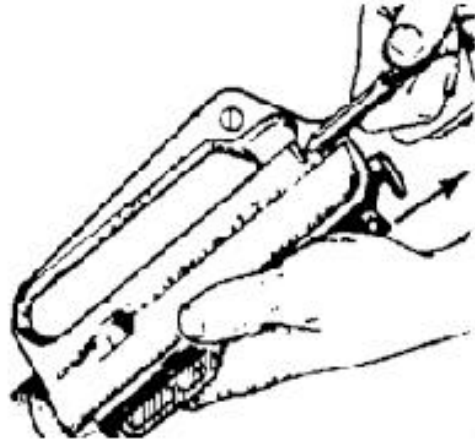

Figure E-9. Pulling the charging handle.
- g. Pull back the charging handle (figure E-9).